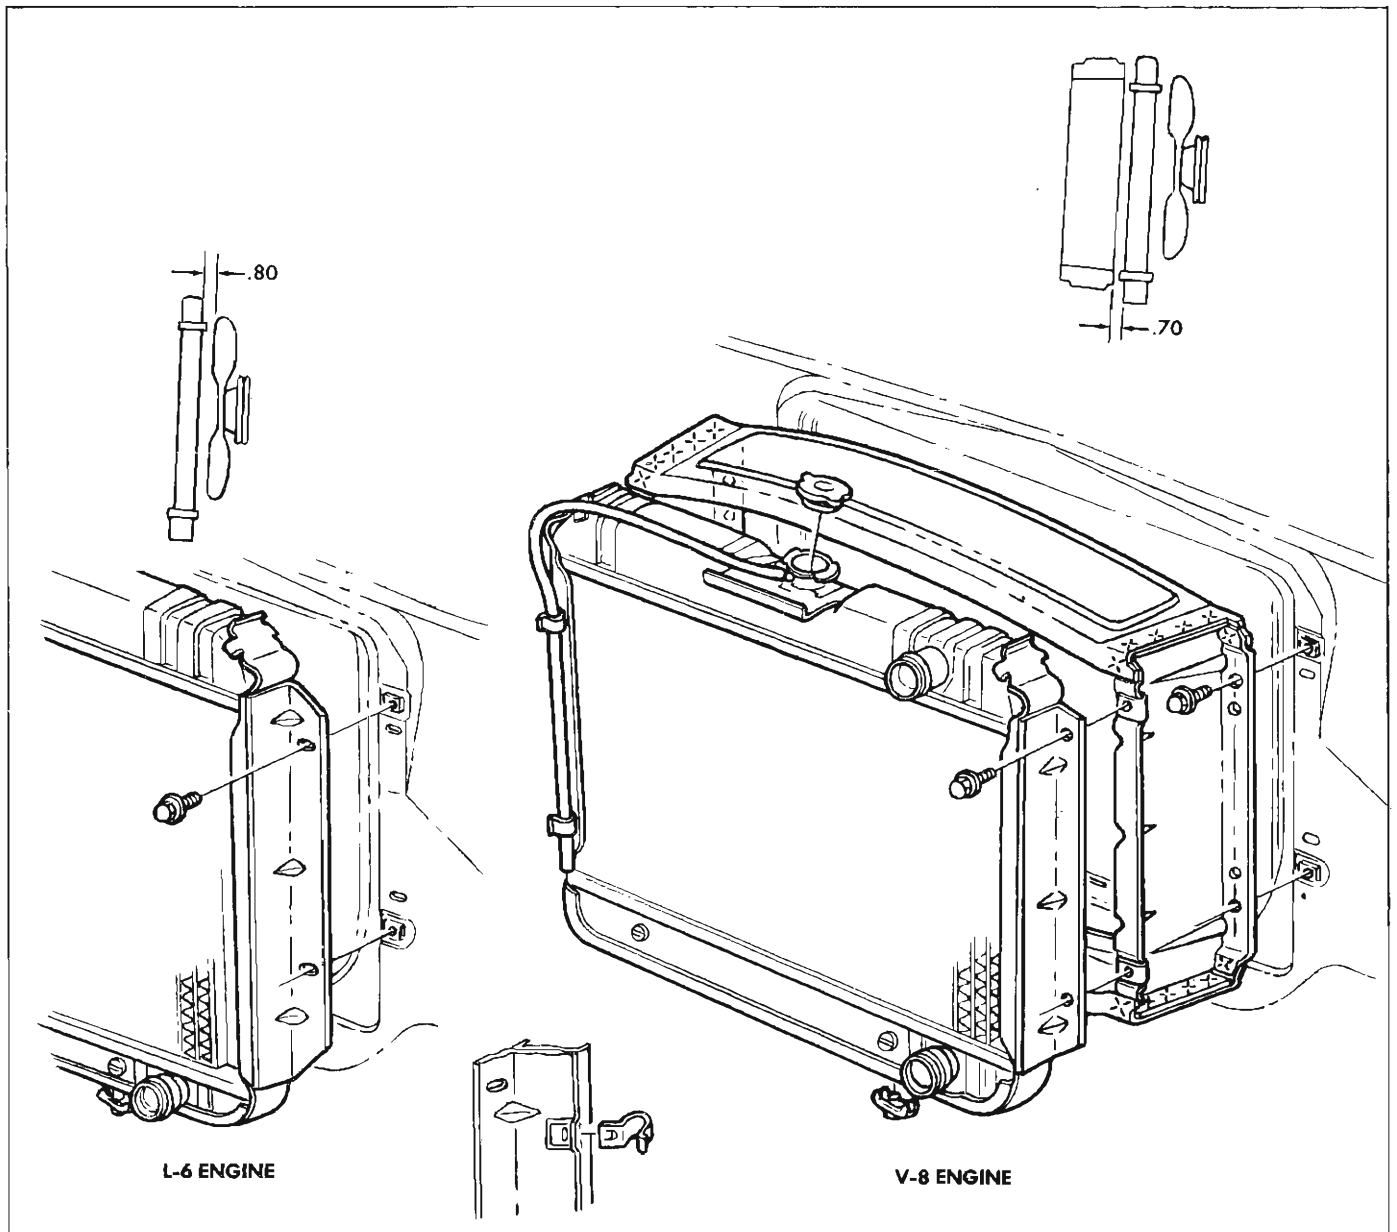

Fig. 1—Radiator and Fan and Shroud—Chevrolet
**NOTE:** Refer to Figures 1, 2, and 3 for radiator fan, and shroud assembled position for each vehicle.